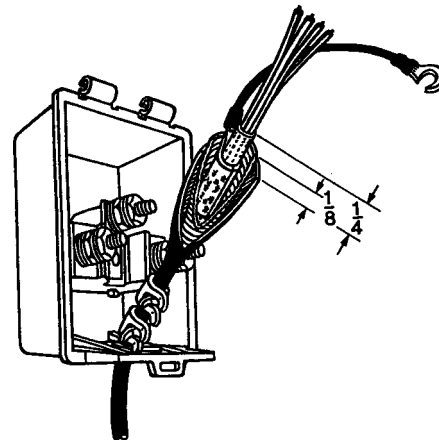

FIGURE 5
4.03 Slip the serrated portion of the SERVI-BOND™ Shield Connector over the inner core sheath or core wrapper. Wrap the open outer jacket and shield of the service wire around the serrated portion of the SERVI-BOND™ Shield Connector and apply gentle pressure with pliers or channel locks to force SERVI-BOND Shield Connector serrations into shield. See Figure 5.